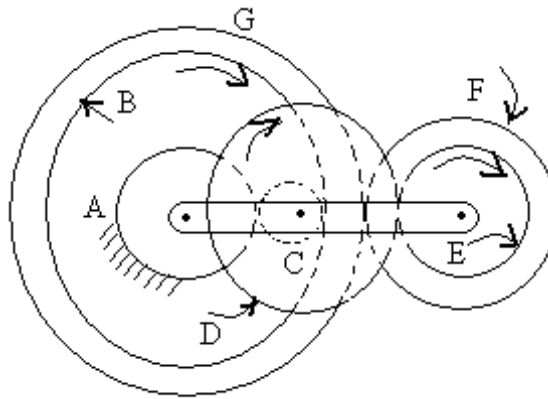

Figure 8
8. Figure 8 shows an epicyclic gear train with the following details: